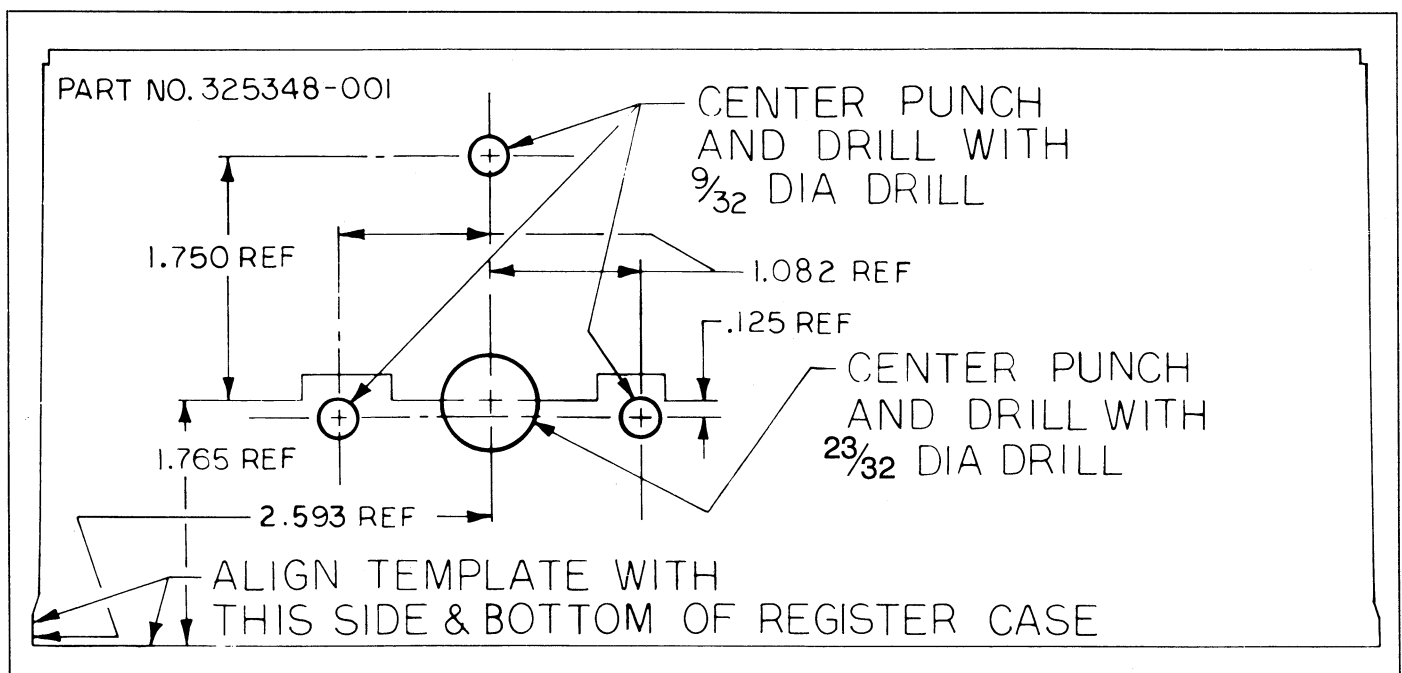

Figure 1. Switch Mounting Hole Dimensions.
1. Place the template, P/N 325348-001, supplied with the Series 7868 Switch on the back of the case. (Figure 1 is a reduced reproduction of the template that can be used as a guide for hole location.)